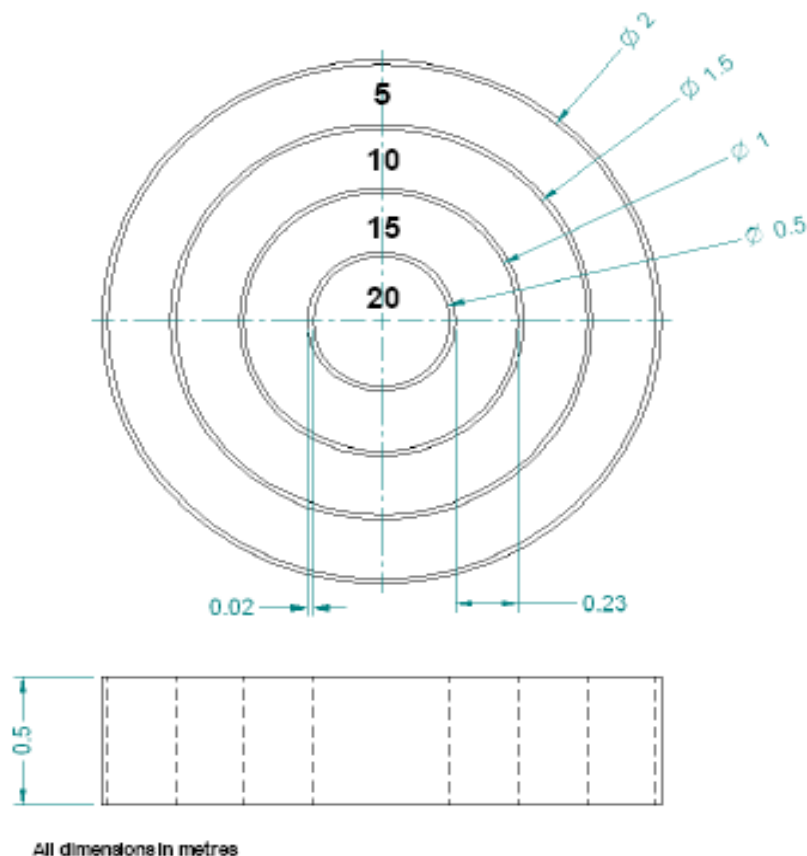

Figure 5.3: Dimensions of the Target Setup
- **Release payload** - Challenge is to release a payload during flight on a target with 4 rings as shown in Figure 5.3 with vertical walls at radius of approximate 0.25m, 0.5m, 0.75m and 1 m from the centre. The height of the walls is approximate 0.5m. The air vehicle must be airborne at all times. The payload is a ball of diameter approximate 50mm and weighs around 20 grams. It will be provided to the team prior to the Challenge. Additional payload can be purchased from organiser at \$2 each.
- **Identify telephone number** - Challenge is to identify **EIGHT (8)** numbers in correct sequence placed on the table. As a guideline, the visual system should be able to pan downwards to at least 11° from the vertical. The air vehicle must be airborne at all times.